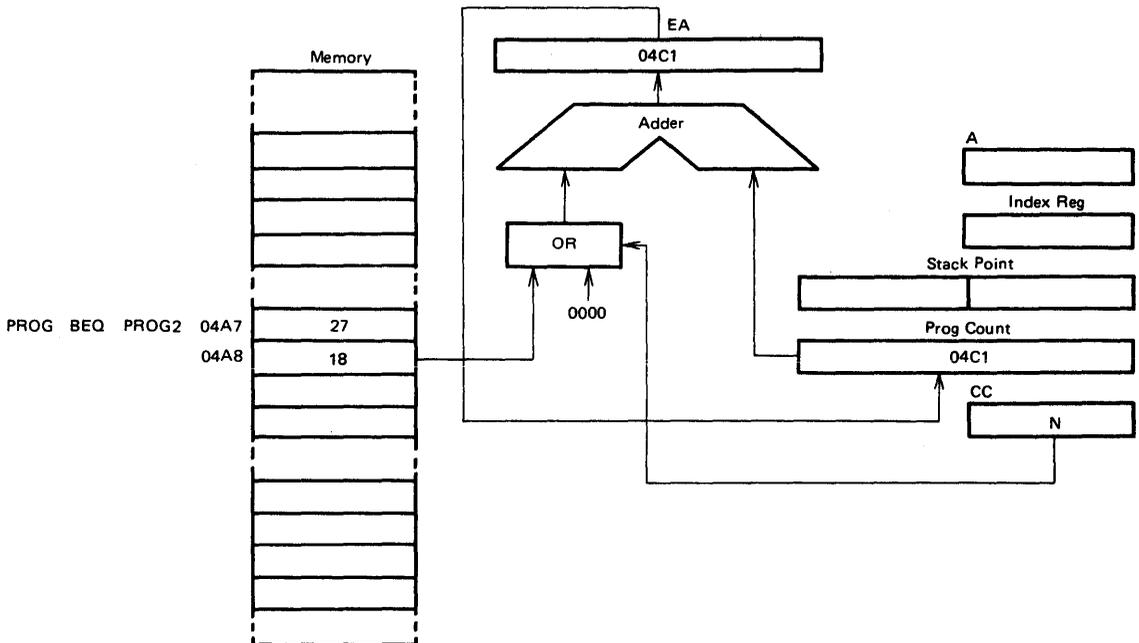

Figure 25 Relative Addressing Example
Refer to Figure 25. The relative addressing mode applies only to the branch instructions. In this mode the contents of the byte following the opcode is added to the program counter when the branch is taken. $EA = (PC) + 2 + Rel$. Rel is the contents of the location following the instruction opcode with bit 7 being the sign bit. If the branch is not taken, Rel = 0, when a branch takes place, the program goes to somewhere within the range of +129 bytes to -127 bytes of the present instruction. These instructions are two bytes long.